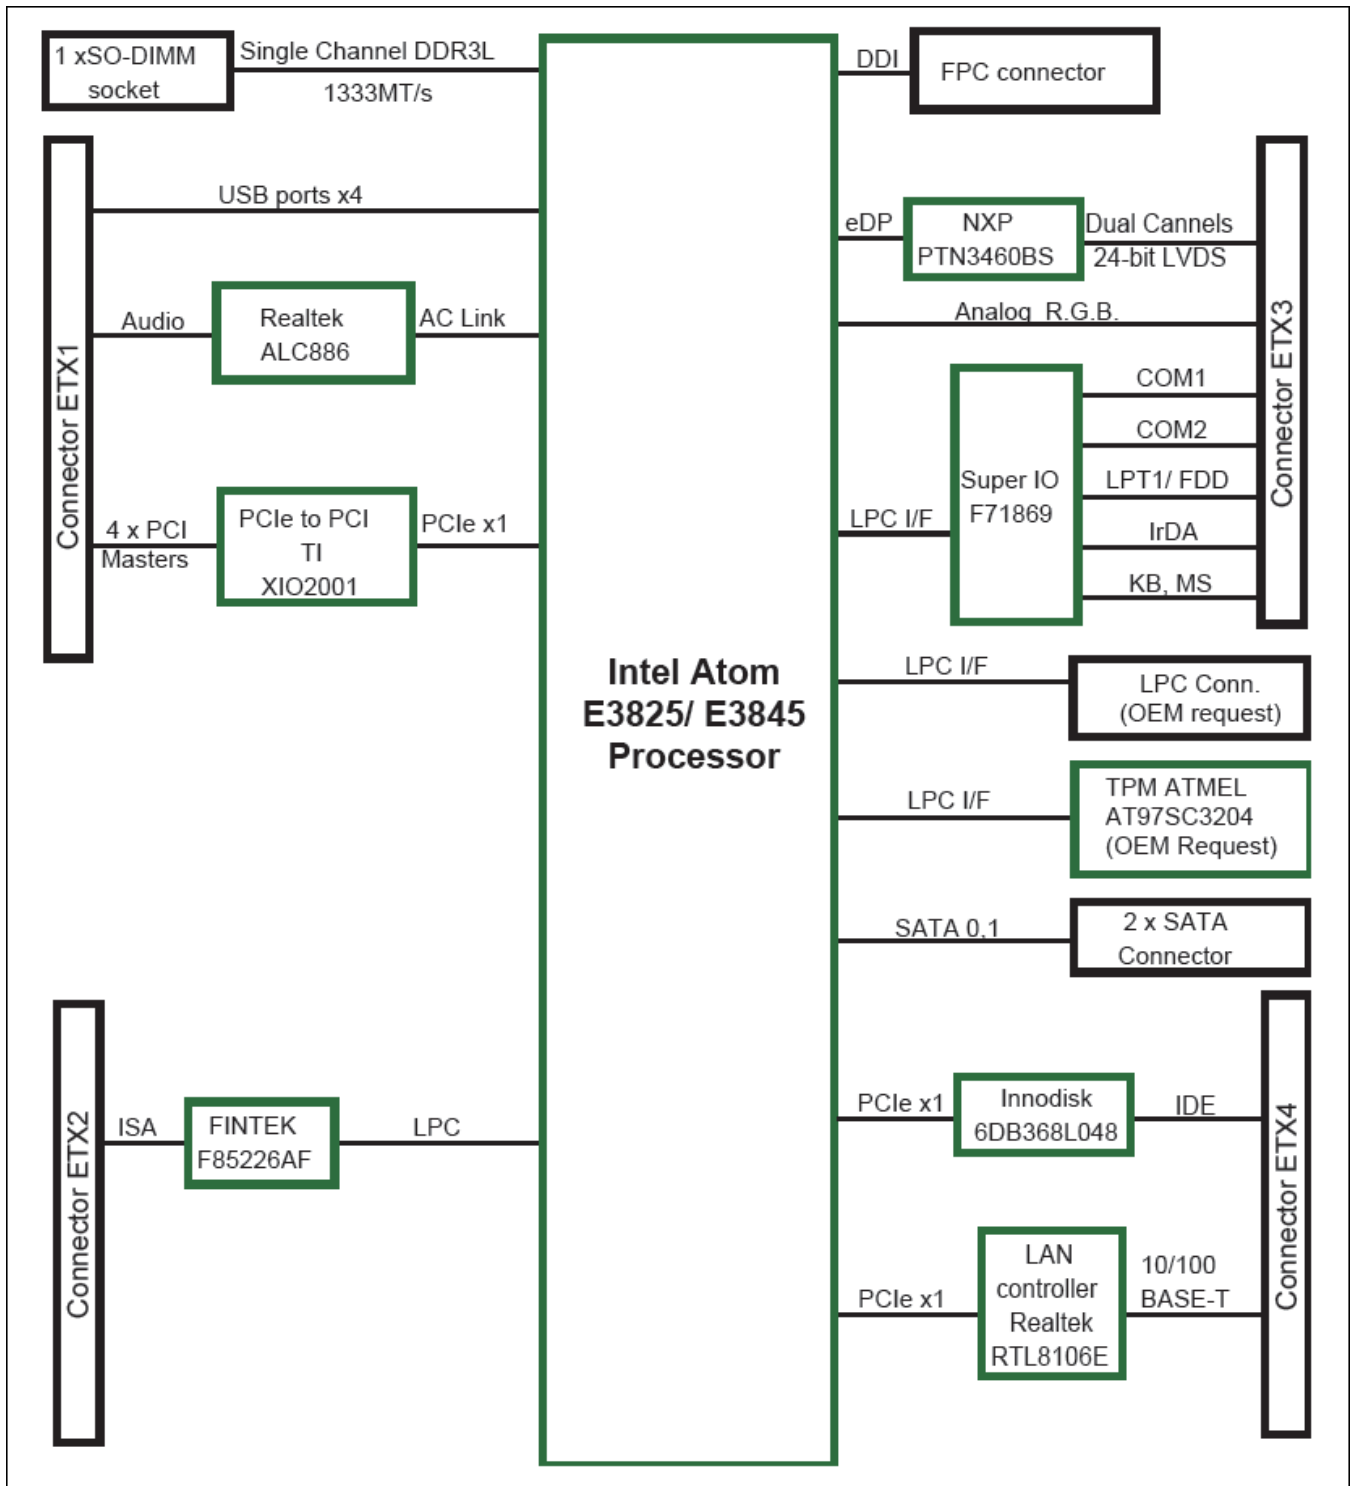

Figure 3: ETX CPU Module Block Diagram
**Note:** On each interface cable, the end of the cable connector that has a red wire going to it should be oriented toward the end of the board connector that is labeled "pin 1" (refer to Figure 3 in Section 2 of this manual for an illustration showing the location and orientation of all of the Pluto Baseboard's interface connectors).